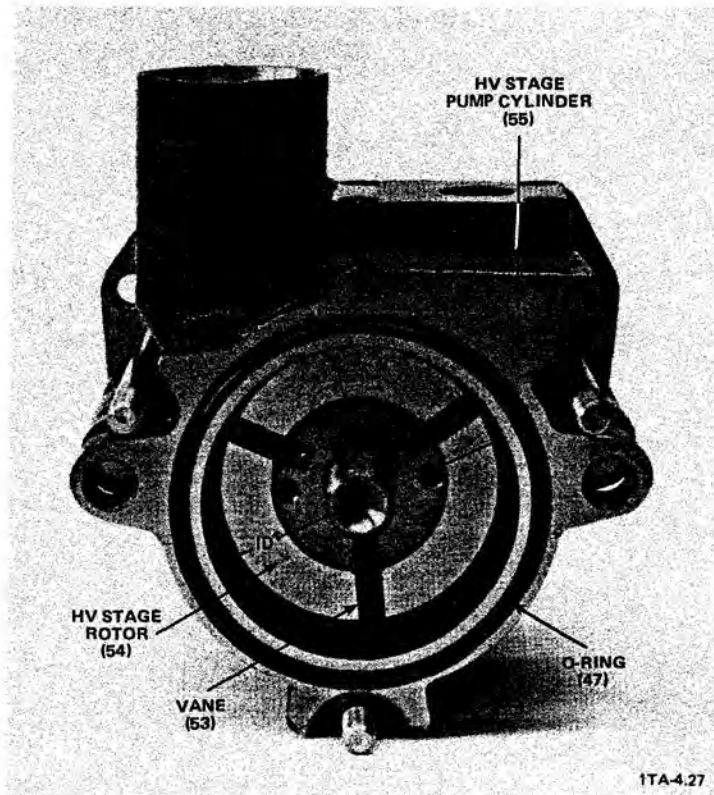
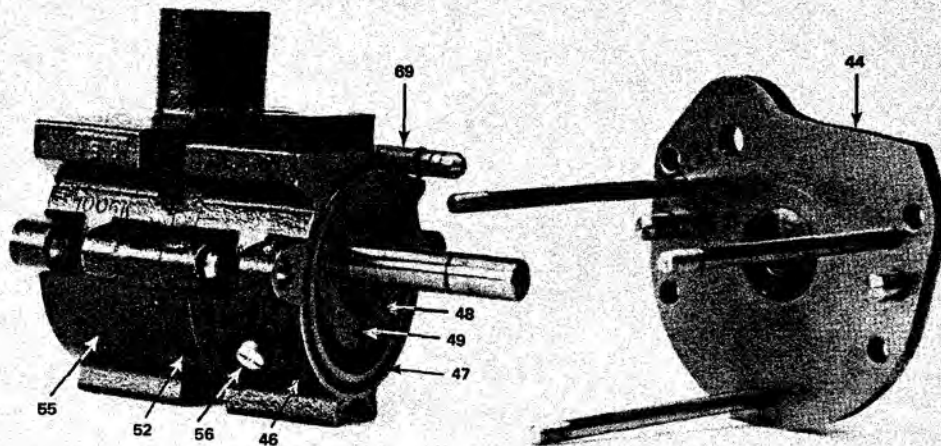
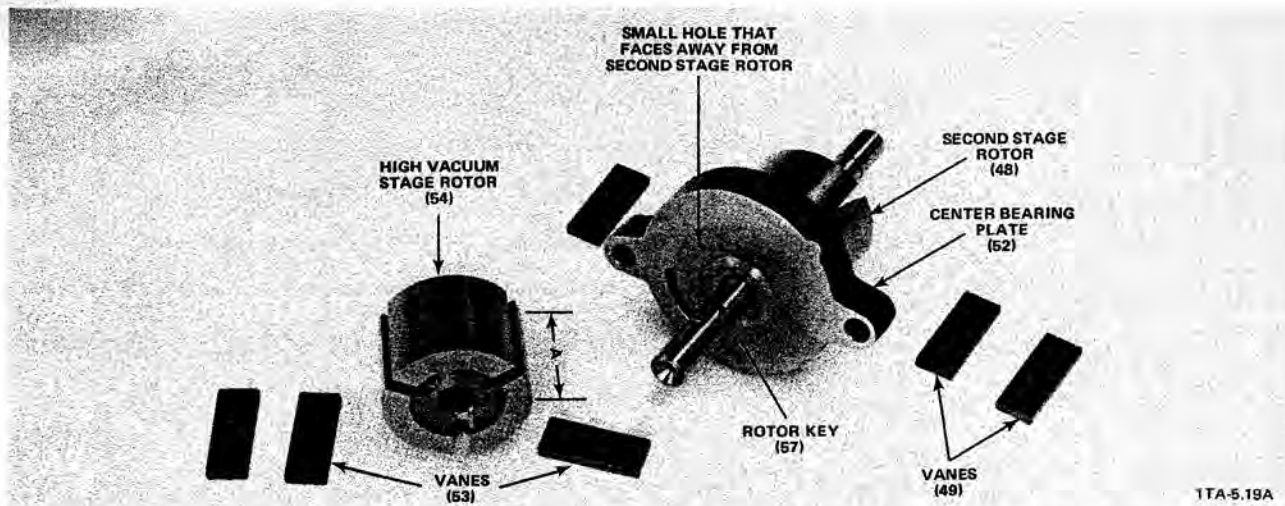

Figure 5-7. High Vacuum (HV) Stage Pump Cylinder (D2A Pump Model Shown)
Figure 5-8. Second Stage Pump Cylinder (D2A Pump Model Shown)
Figure 5-9. High Vacuum Stage Rotor Removed From the Shaft (D2A Pump Model Shown)
**REQUIRED ACTION:** Using long nose pliers, remove the three vanes (53) from the high vacuum rotor (54). (See Figure 5-7).
- C-12 Remove the high vacuum stage pump cylinder (55) to expose the high vacuum rotor (54) and the center bearing (52). Remove the O-rings (47) from both sides of this pump cylinder (see Figure 5-7).
- C-13 Remove the front end plate (44) from the motor side of the shaft (see Figure 5-8).
- C-15 Remove the second stage pump cylinder (46) to expose the second stage rotor (48). Remove the O-rings (47) from both sides of this cylinder (see Figure 5-8).
- C-16 Repeat Step C-11, except remove the vanes (49) from the second stage rotor (48). (See Figure 5-8).
**REQUIRED ACTION:** Using a puller or a prying device, remove the high vacuum stage rotor (54) from the shaft.
**NOTE:** Two threaded metric pulling holes are located in the outside end of the high vacuum rotor (54) for use with a puller (see Figure 5-7).
**NOTE:** The second stage rotor (48) and the shaft are permanently attached to each other on the D2A, D4A, D8A, and D16A pump models.
- C-18 Using small diagonal cutting pliers, pull the high-vacuum-stage rotor key (57) from the slot in the shaft (see Figure 5-9).
- C-19 Slide the center bearing (52) off of the shaft (see Figure 5-9).
**NOTE:** For use during reassembly, the ends of the threaded studs (62) that have the shorter threaded section screw into the front end plate (44) (see Figure 5-8). During reassembly, the threaded studs should be screwed until they are tight in the front end plate.
- D-10 Repeat Step D-8, except remove the shaft seal (45) from the front end plate (44).
- d. **For D30A, D60A, and D90A pump models only,** clean the brass air nozzle screw (66) located inside of the intake tube portion of the high vacuum pump cylinder (55).
- e. The tiny silencing hole in the side of the gas ballast valve (17) stem just **below** the bolting flange - use fine wire to clear any dirt from the hole; **DO NOT ENLARGE THE HOLE.**
- E-4. Using a brush, thoroughly clean the center bearing (52). (See Figure 5-9.)
- E-5. Clean all dirt accumulation or buildup from the three vane slots in each rotor (48/54). (See Figure 5-9.)